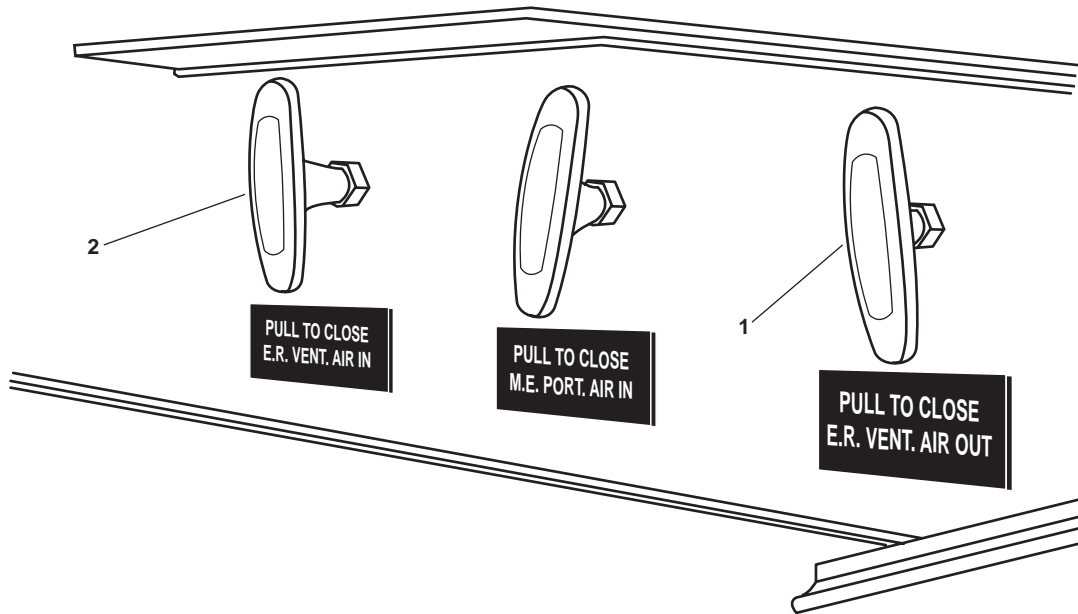

Figure 3. PORT Engine Room Fire Flap Quick Release T Handles
- a. PORT engine room supply fan intake damper (figure 3, item 1)
- b. PORT engine room exhaust fan outlet damper (figure 3, item 2)